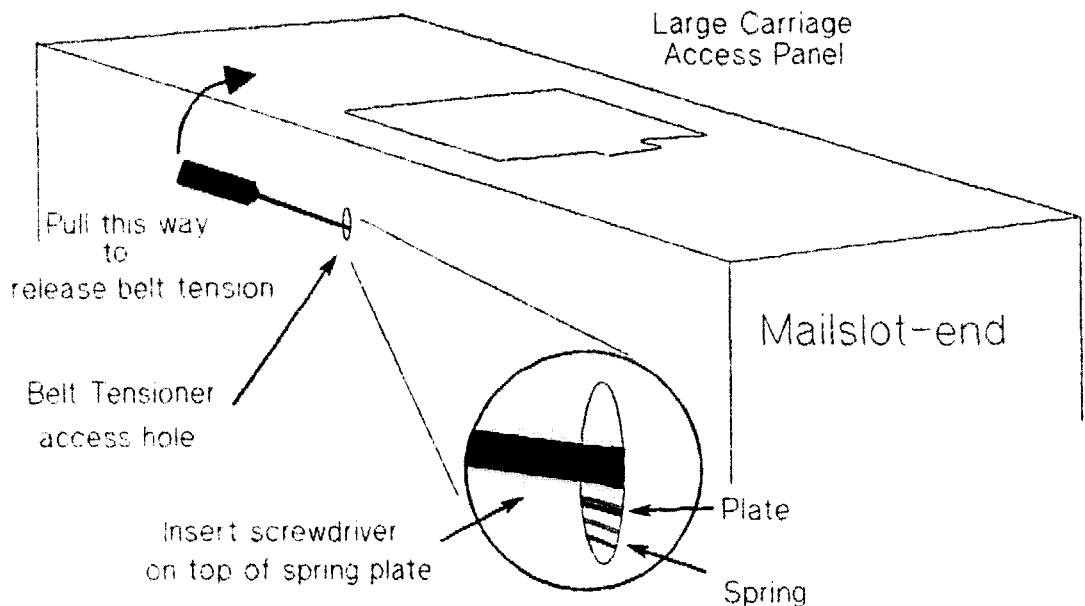

Figure 8-23. Releasing Picker Belt Tension
Refer to Figure 8-23.
3. Release the tension on the Picker Belt by pushing the tensioner spring toward the drives. To push the spring *toward* the drives, pry the tool you are using as shown in Figure 8-23.
When installing the Picker Belt on the Picker Assembly, take the tension off the belt by pushing the belt Tensioning Assembly spring down. (See Figure 8-23.)